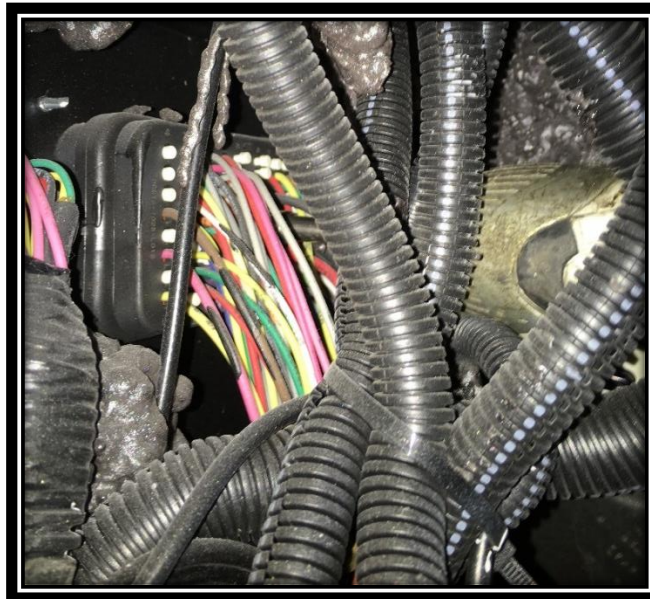

FIG. 3-2
7. Unbolt 102-way connector. Refer to FIG 3-2.